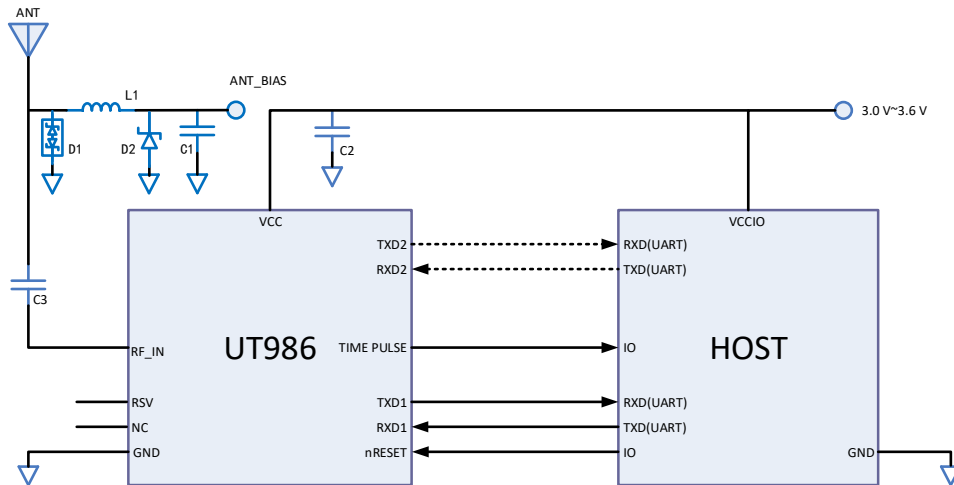

Figure 4-2 UT986 Reference Circuit
- It is recommended to use the same power supply for the VCC of UT986 and the IO of the host, so as to avoid abnormal startup caused by the IO leakage between UT986 and the host. The power supply of UT986 VCC ranges from 3.0 V to 3.6 V, and the input decoupling capacitor C2 (see Figure 4-2) needs to be more than 10  $\mu$ F. Other capacitors, such as 1  $\mu$ F/100 nF/ 100 pF, can be connected in parallel.